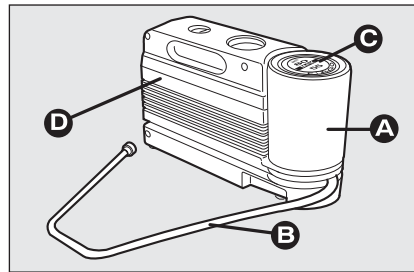

fig. 3
- bottle **A**-fig. 3 containing sealer and fitted with: